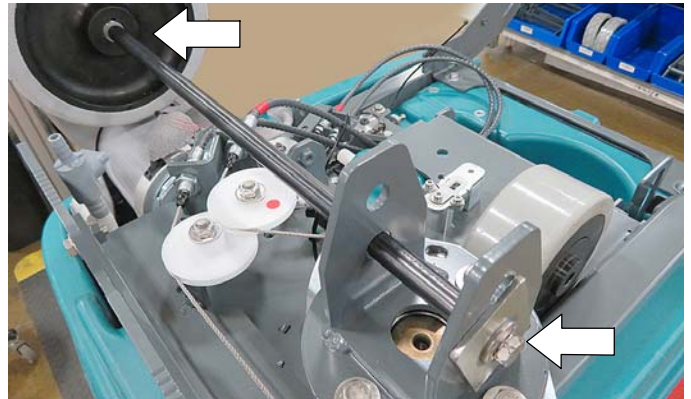

Fig. 2
4. Insert the wheel alignment tool through the right wheel bracket and thread it into the drive wheel as shown (Figure 2). Do not over tighten the wheel alignment tool.